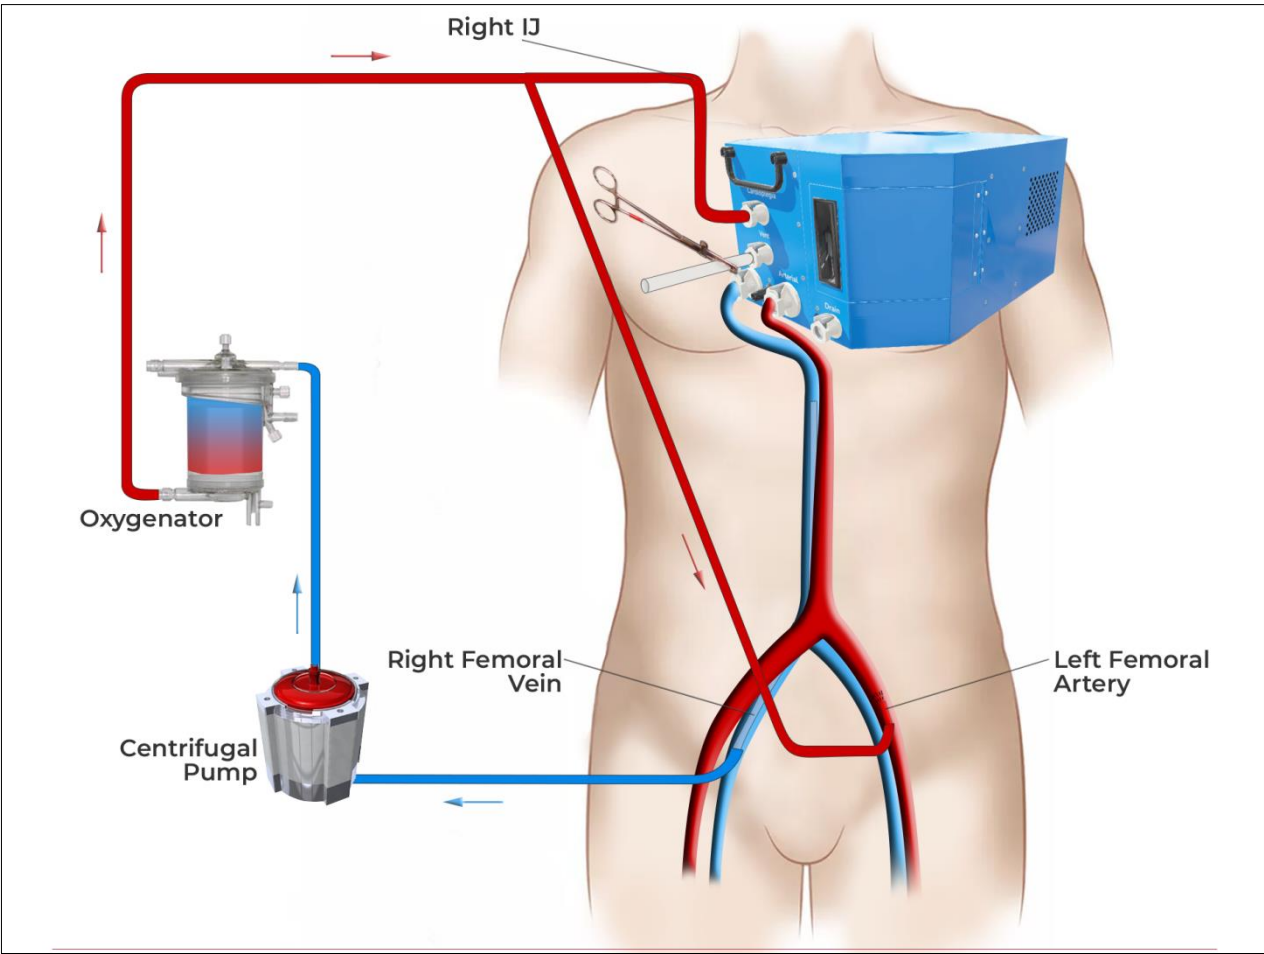

Figure 1.6 VAV ECMO with CPM
1.3.3 **VAV ECMO** -Figure 1.6 illustrates connections between a VAV ECMO circuit and the CPM. Table 1.4 summarizes these connections.